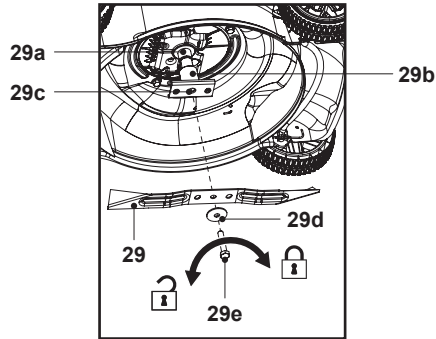

Fig. 22
1. Keep the underbody and cutting blade (29) clean and free of debris. Remove clippings from the rear discharge chute (28).
2. Check all fasteners, such as nuts and bolts, periodically for tightness before operation. After prolonged use, especially in sandy soil conditions, the cutting blade (29) will become worn and lose some of the original shape. The cutting efficiency will be reduced and the cutting blade (29) should be replaced.
3. Keep the cutting blade (29) sharp to ensure a good cutting performance. Replace a worn or damaged cutting blade (29) with a new one of the same type or have it sharpened by a qualified specialist.
4. If jacking the machine is not possible, tilt it to the right side so that the fuel tank cap (12) side is up. This helps to prevent fuel leakage and harder starting due to flooding of the carburetor (13).
5. Loosen the hex bolt (29e) anti-clockwise using a suitable wrench (size 17 mm) and remove it together with the washer (29d), the cutting blade (29), the blade holder (29c) and the inner bushing (29b) from the spindle (29a).
6. Replace the cutting blade (29) with a new one of the same type. Refit the blade holder (29c) together with inner bushing (29b) to the spindle (29a), make sure that the slot of blade holder (29c) pass through the pin to the end of spindle (29a). Check the status of the flange onto the blade holder (29c), then attach the cutting blade (29) properly, fix the assembly with the washer (29d) and hex bolt (29e). Tighten the hex bolt (29e) clockwise with 45 Nm min, 60 Nm max. to ensure safe operation of your machine (Fig. 22).